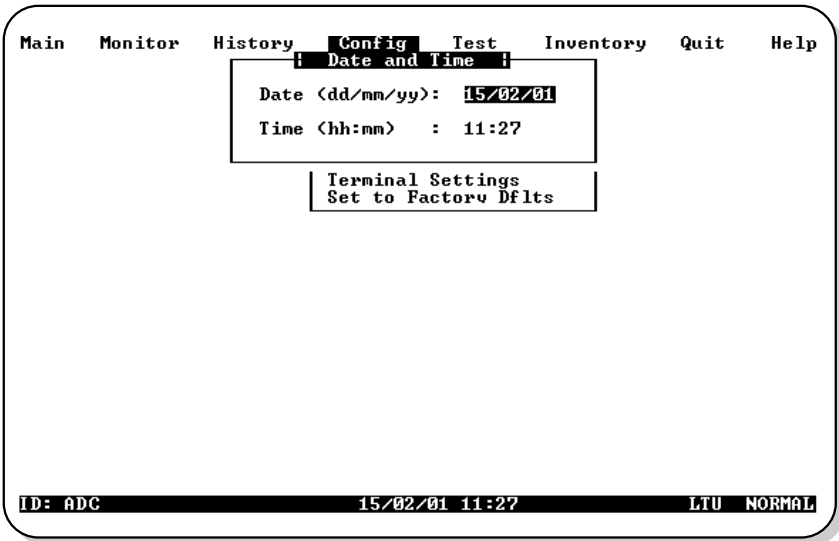

Figure 11. Config Date and Time Menu
- 1 Press **D** at the Config drop-down menu to display the Config Date and Time menu (Figure 11).